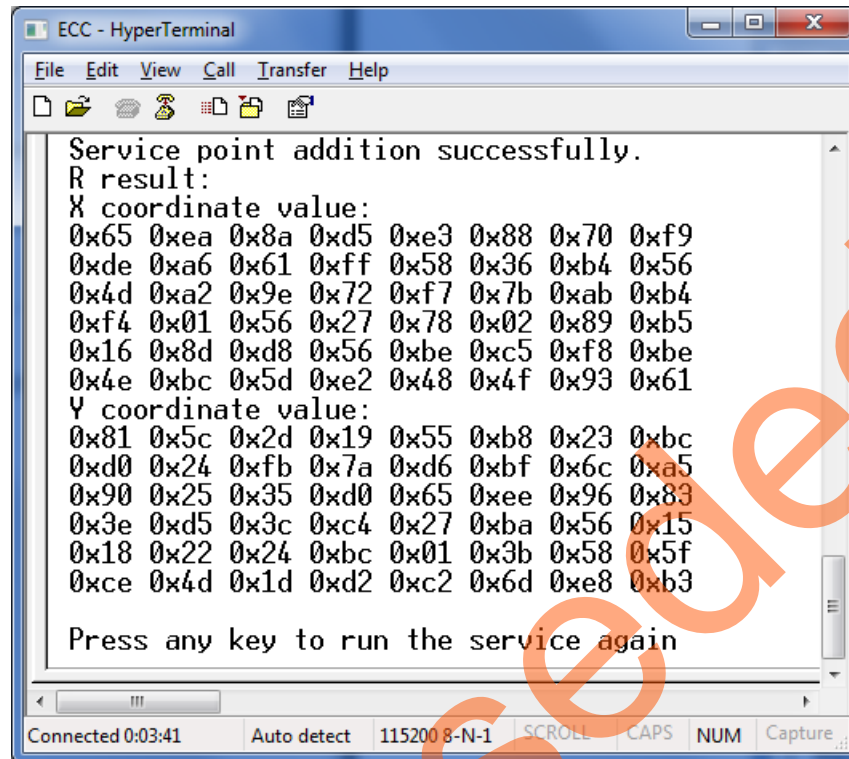

Figure 13 • Point Addition Result
- Point addition result is displayed on HyperTerminal, as shown in Figure 13.